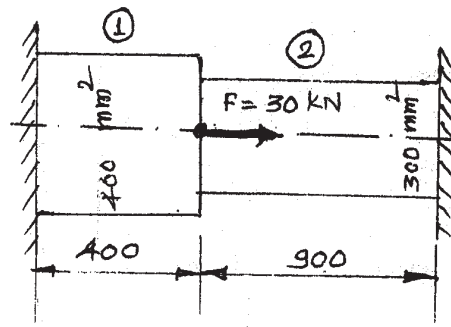

Fig. 9
b) A load member is as shown in fig. 9. The loading is initially done at  $20^\circ\text{C}$ . The temperature the rises to  $60^\circ\text{C}$ . Determine the nodal displacements and the elemental stresses developed. [10]